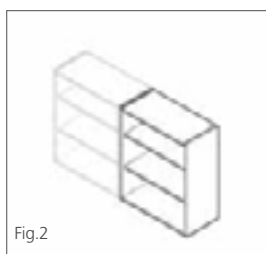

Fig.2
- For a replacement cabinet end to the right hand side of a unit add **GR**. For example WU572 **GR** (see Fig.2)